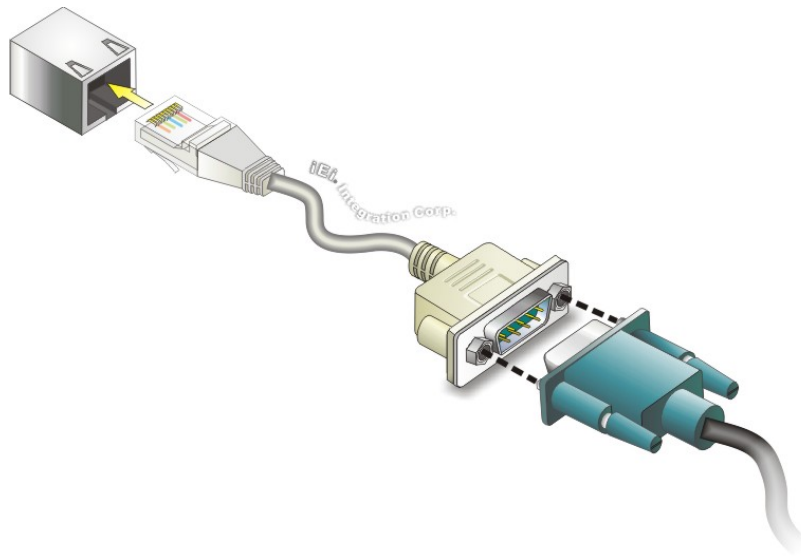

Figure 3-16: RJ-45 RS-232 Serial Device Connection
**Step 2: Insert the RJ-45 connector.** Insert the RJ-45 connector on the RJ-45 to DB-9 COM port cable to one of the RJ-45 RS-232 connectors on the TANK-870-Q170 Series. See **Figure 3-16**.